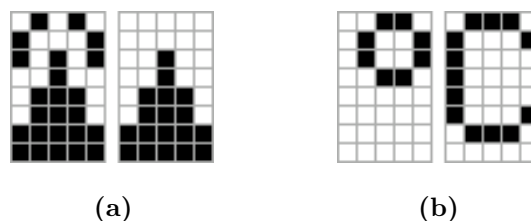

Figure 4: Custom LCD characters
- Read the document `st7036.pdf` to learn how to program custom characters and use them to prettify your output. For the DCF77 time example, you might want to switch between the two “radio controlled” icons shown in figure 4 (a) as soon as the time is synchronized. For the temperature sensor application, you might want to add a custom “degree” sign (aligned to the right in contrast to character `0b11011111`) to be able to display the text “°C” (compare figure 4 (b)); you can use a normal “C” as second character in this case).